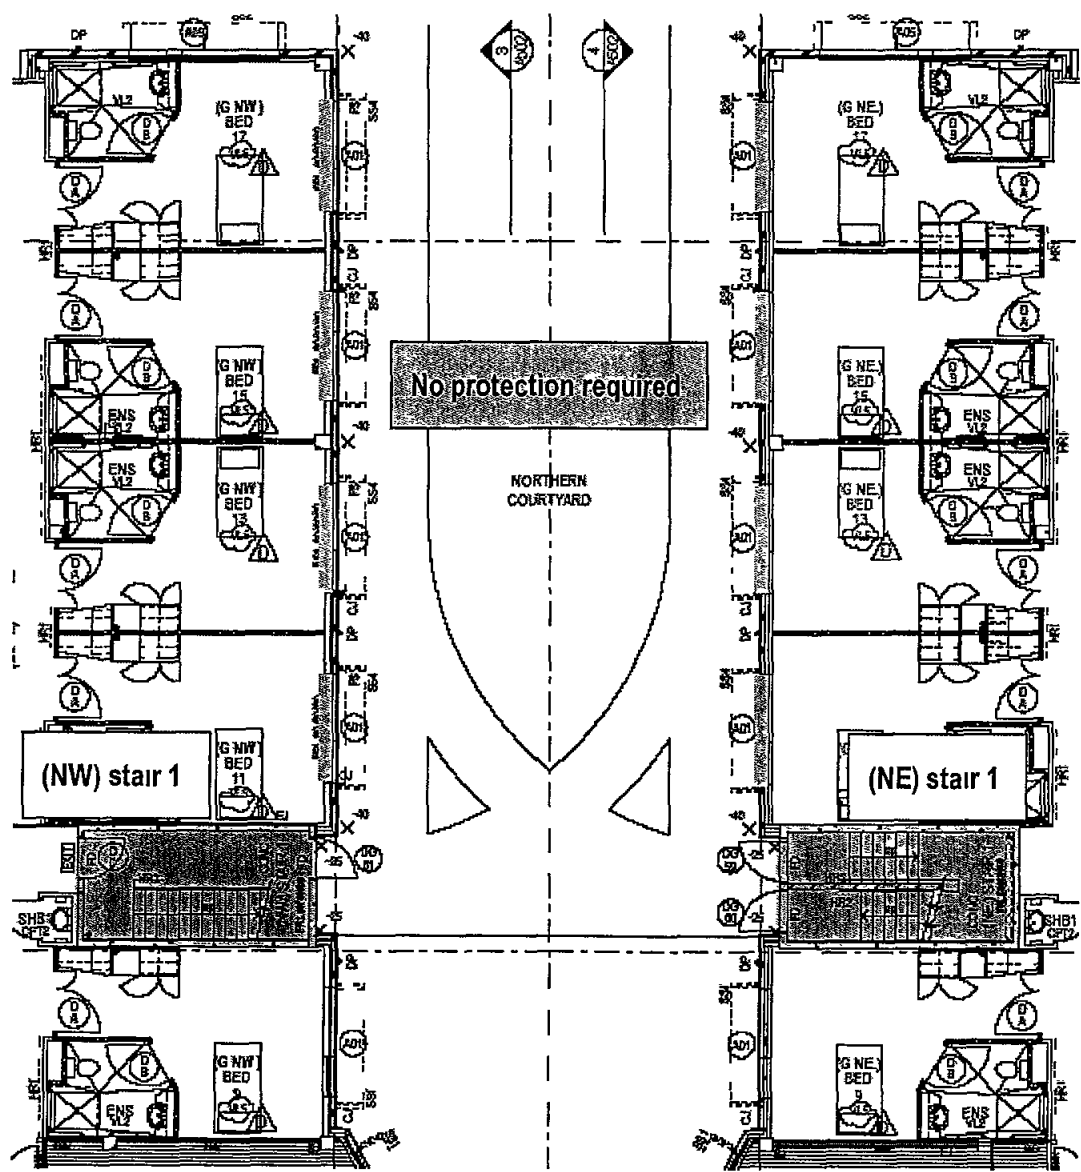

Figure 3 Discharge from (NW) stair 1 and (NE) stair 1
- 8 Openings within 6m of the path of travel from the discharge of the fire isolated stairs (NW) stair 1, (NE) stair 1, (SE) stair 2, (SW) stair 2, (SW) stair 1 and (G SE) stair 1 – refer to Figure 3 to Figure 6 – need not be protected in accordance with clause D1 7 and C3 4 of the BCA